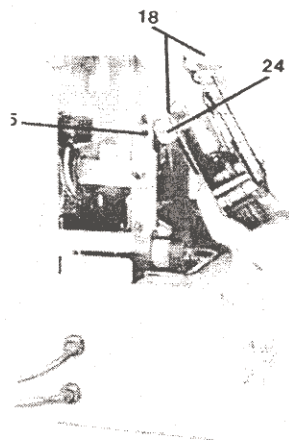

FIGURE 9
3. Unplug connectors (Fig. 9, 18).
4. Lift type section slightly and move it to the right to release hinge pins (Fig. 9, 24) from their socket (Fig. 9, 25). Unit will lift out (Fig. 9).